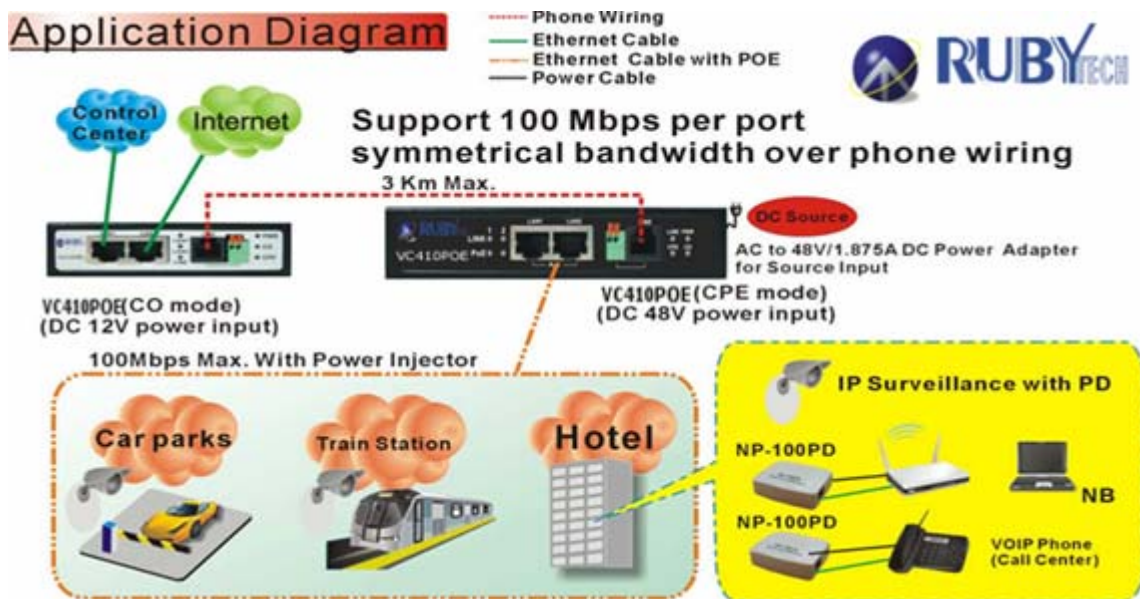

Figure 2.6 VC-410 & VC410POE / VC-410 & VC410POE point to point application diagram
1. User can use VC-410 & VC410POE bridge (CO mode) to connect VC-410 & VC410POE bridge (CPE mode), or use VC-410 & VC410POE bridge (CO mode) to connect VC-410 & VC410POE bridge (CPE mode) that to do a variety of applications. The bridge's line port supports 100Mbps maximum for data service across existing phone wiring. It is easy-to-use which do not require installation of additional wiring. Every modular phone jack in the home can become a port on the LAN. Networking devices can be installed on a single telephone wire that can be installed within suitable distance (depends on speed) (Figure 2.6)